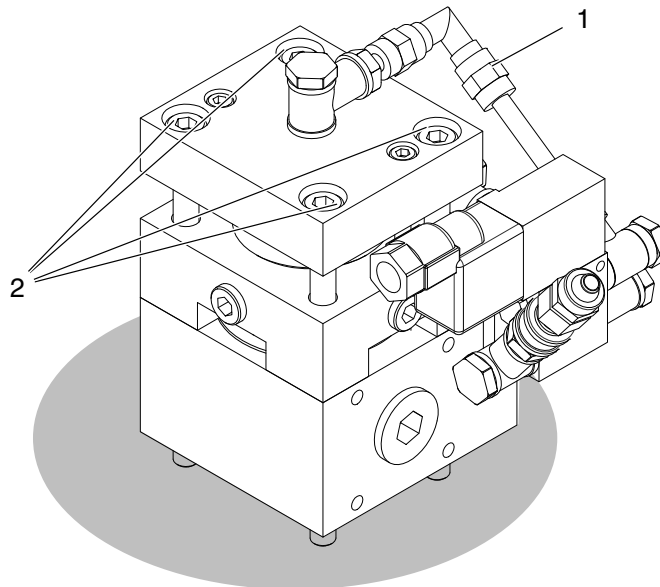

Fig. 7-1
3. Extract the four screws M8 (1, Fig. 7-1).